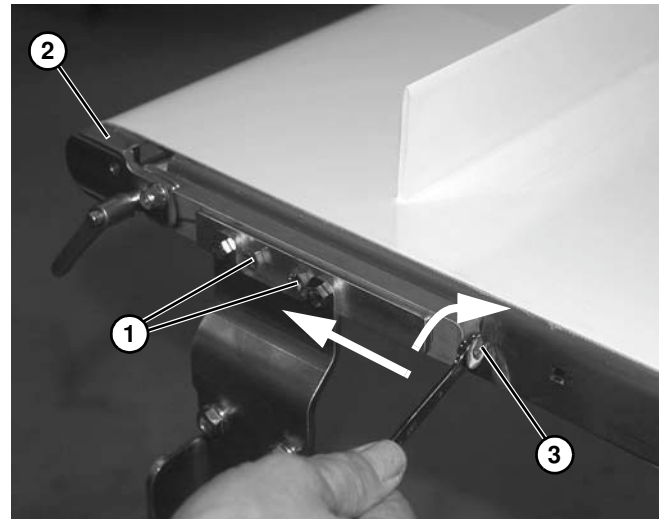

Figure 58
- On tension end of the conveyor, loosen two screws (Figure 58, item 1) on each side of conveyor.
- Extend idler spindle assembly (Figure 58, item 2) by turning screw (Figure 58, item 3) clockwise on both sides of the conveyor to sufficiently tension belt to handle conveyor load.
- Tighten four screws (Figure 58, item 1) to secure idler spindle assembly (Figure 58, item 2).